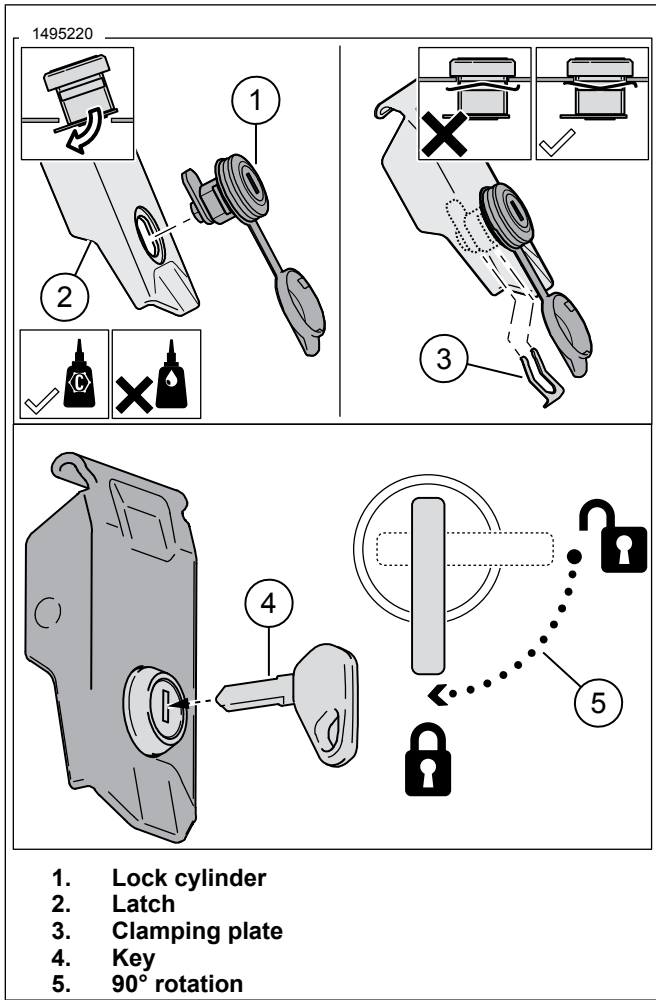

Figure 3. Lock Cylinder Insertion
- Figure 3 Make sure lock cylinder tab points towards latch.
1. Figure 3 Insert lock cylinders (1) into latches (2).
2. Secure lock cylinders with clamping plates (3).
3. Insert keys (4) into lock cylinders.